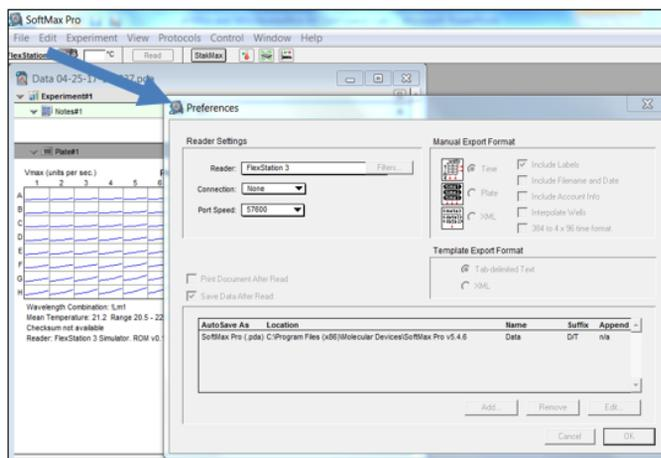

Figure 11. Preferences section for Exporting a Data File from Softmax 4/Softmax 5. Ensuring the data is exported in Time format.
- 1 Click on **Plate Reader Name** to open a window titled **Preferences**. Ensure that, in the **Manual Export Format**, **Time** is selected, and all other tick boxes are deselected. In the **Template Export Format** section make sure **Tab-delimited Text** is selected, Click **Ok**. See **Figure 11**.